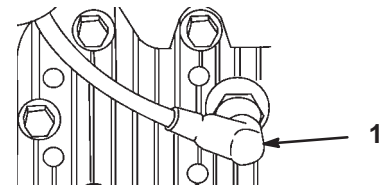

Figure 7
1. Disconnect the wire from the spark plug (Fig. 7).